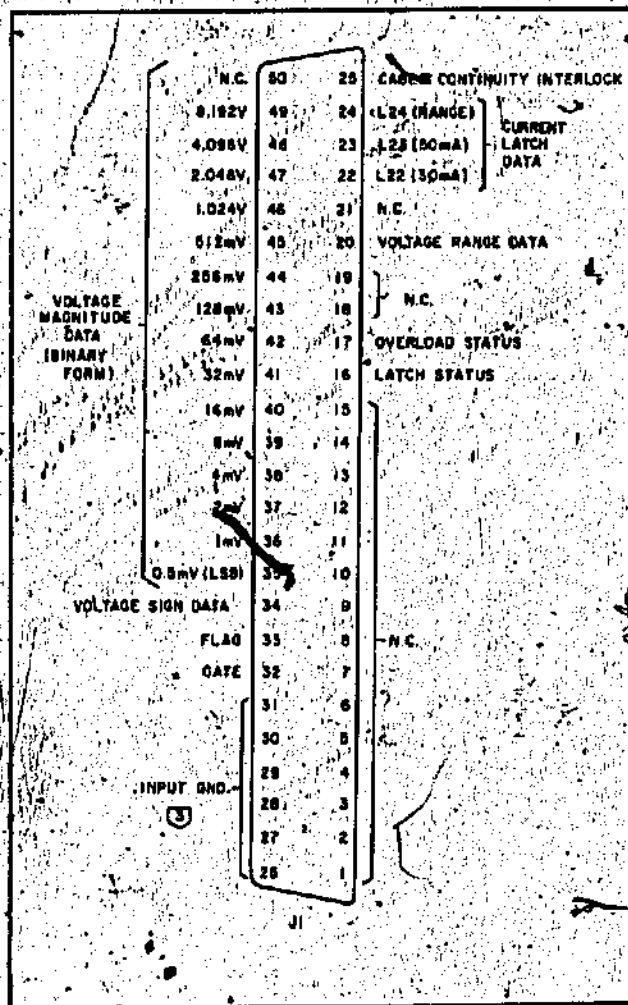

Figure B-1. Input/Output Data Connector
B-6 Input/Output data is connected to the digital programming source by means of the rear connector (Figure B-1). The parameters associated with each of the signals of Figure B-1 are discussed in the following paragraphs.
B-32 Input data common must be connected to (3) common of the DVS (pins 26 through 31 shown on Figure B-1). These pins are internally shorted together within the connector/jack.